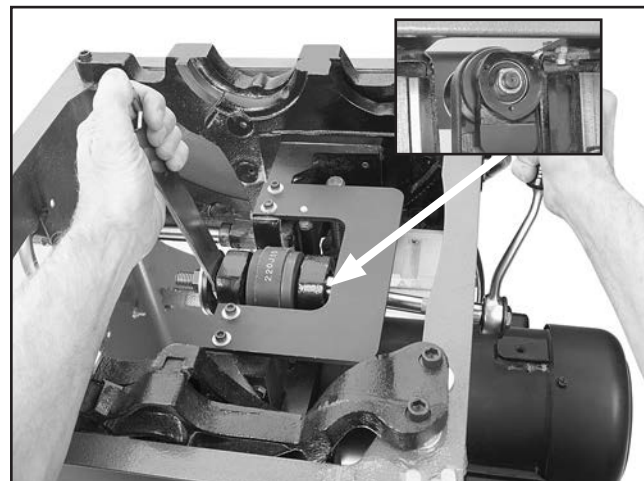

Figure 138. Removing arbor lock nut. (Inset: arbor lock nut.)
11. Place open end of arbor wrench on arbor, and while keeping arbor stationary, use a 25mm wrench to loosen and remove lock nut at other end of arbor, as shown in **Figure 138**.